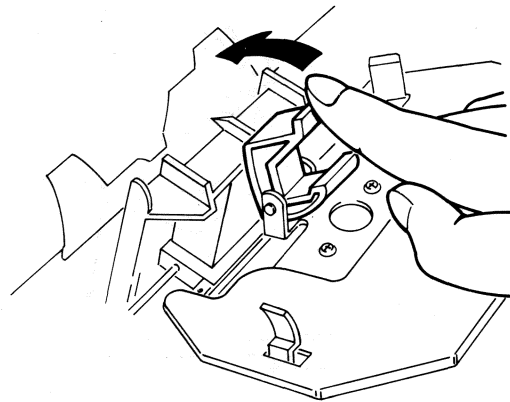

Figure 6B
5. Gently push the Lock Lever in the direction indicated by the arrow until it locks into place (see Figure 6B). The Wheel is set in position and ready to print.
3. Remove the Print Wheel (see Figure 6B).